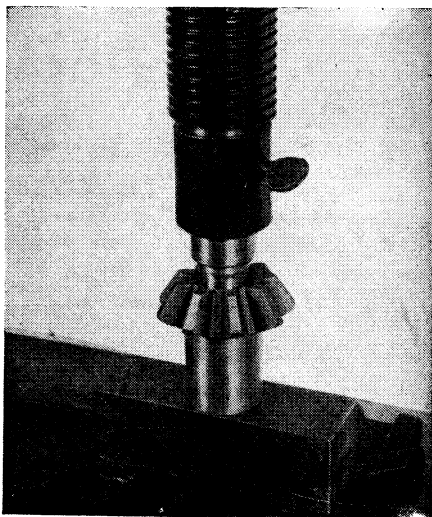

Fig. 101 Pressing bushing into differential pinion. Use adapter with correct size offset to fit bushing
3. Place pinion on anvil, Fig. 101. Position bushing in inner end of pinion bore and press squarely into position. Use adapter with correct size offset to fit bushing.